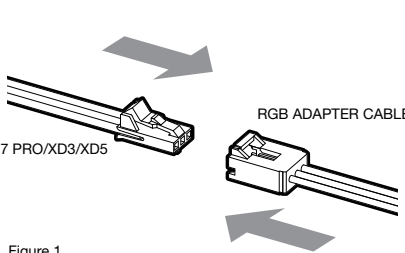

Figure 1
1. Connect the XC7 PRO/XD3/XD5 RGB male connector into the RGB ADAPTER CABLE female connector (Figure 1).
1. 将XC7 PRO / XD3 / XD5 RGB的公头连接到RGB适配线缆的母头上(图1)。